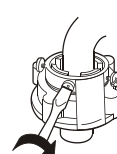

Figure 4
- 3.Fasten the four screws evenly. See to Figure 4.